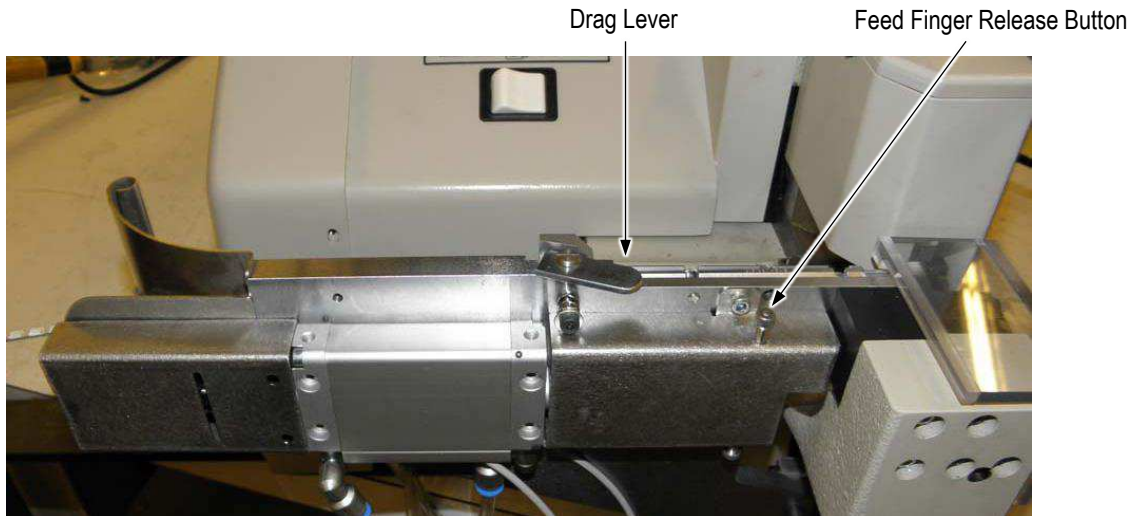

Figure 13
2. Rotate the drag lever to release and hold the drag open (back), then feed the terminal strip through the strip guide and groove in the feed plate until the end reaches the feed finger (see Figure 13).